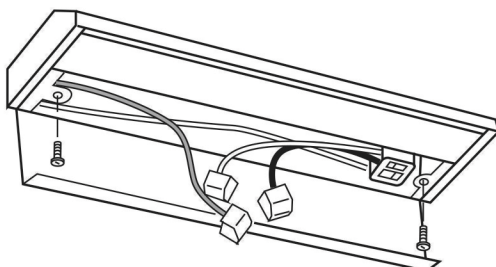
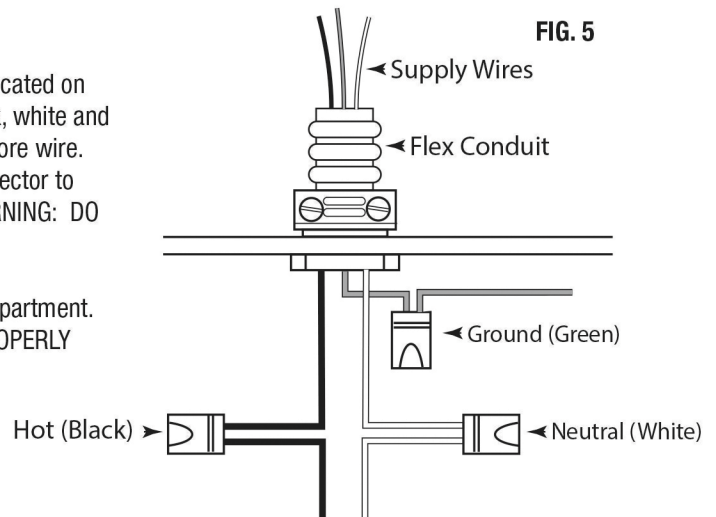

FIG. 4
FIG. 5
1. Open up wireway cut-out and wiring compartment (there are screws located on each side of fixture) (FIG. 4) and pull out 3 modular wire connectors (black, white and green). Modular (push-in) connectors are suitable for #12-14 AWG solid core wire. Strip back jacket on AC supply wires 3/8" and use modular (push-in) connector to connect wires (BLACK to BLACK, WHITE to WHITE, GREEN to GREEN). WARNING: DO NOT MIX WIRES OR CHANGE POLARITY. Please reference FIG. 5.